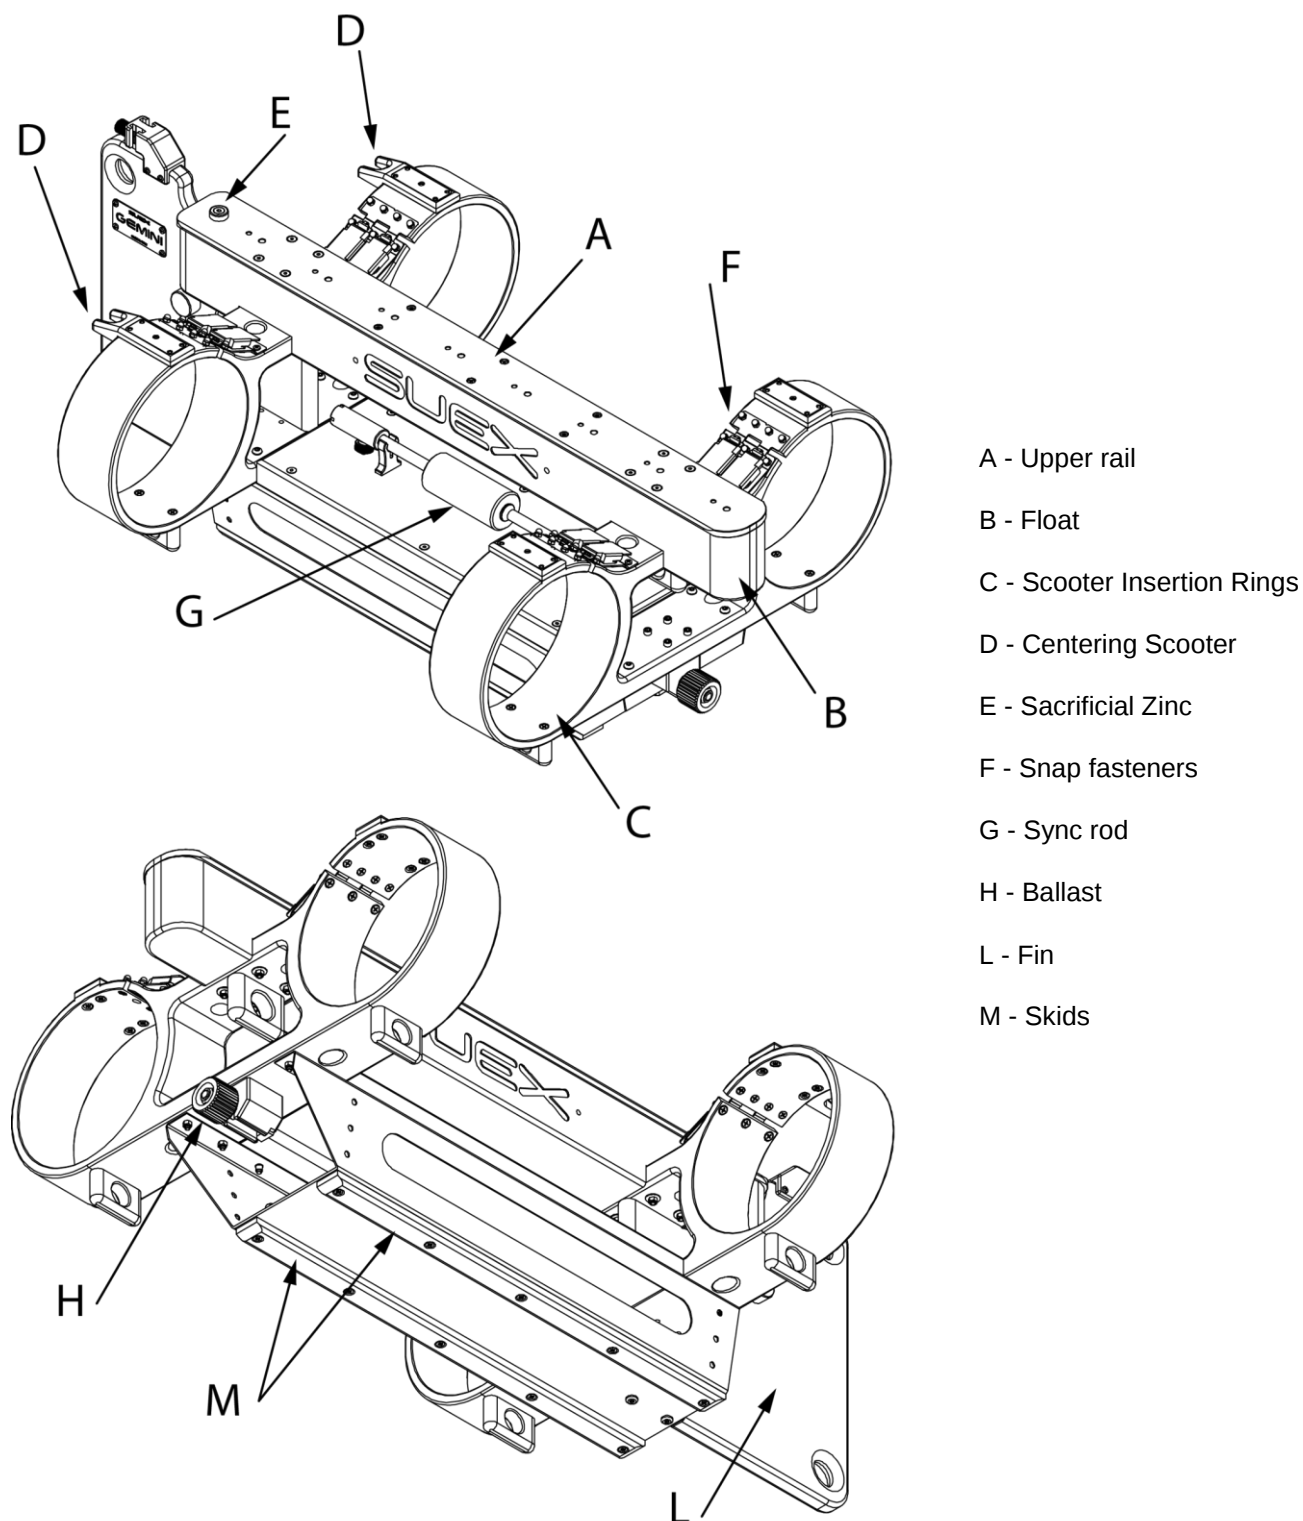

Fig 1 – Part description
- 3 - Open the snap fasteners on the rings (G - **Fig 1 – a pag. 5**).
- Close the snap fasteners of the rings (G -Fig 1 – a pag. 5).